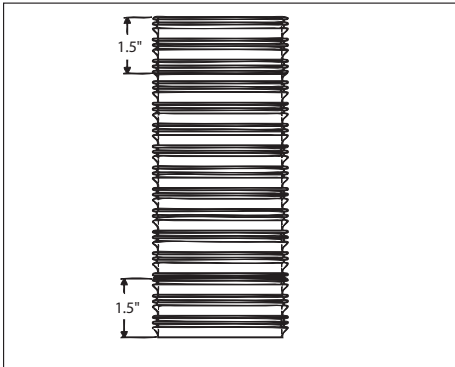

Figure 12
2. Make 4 marks on both ends of liner 90° apart 1 ½" from each end as shown in **Figure 12**. These marks will act as the reference point for when the adapters are fully seated onto the flex liner.